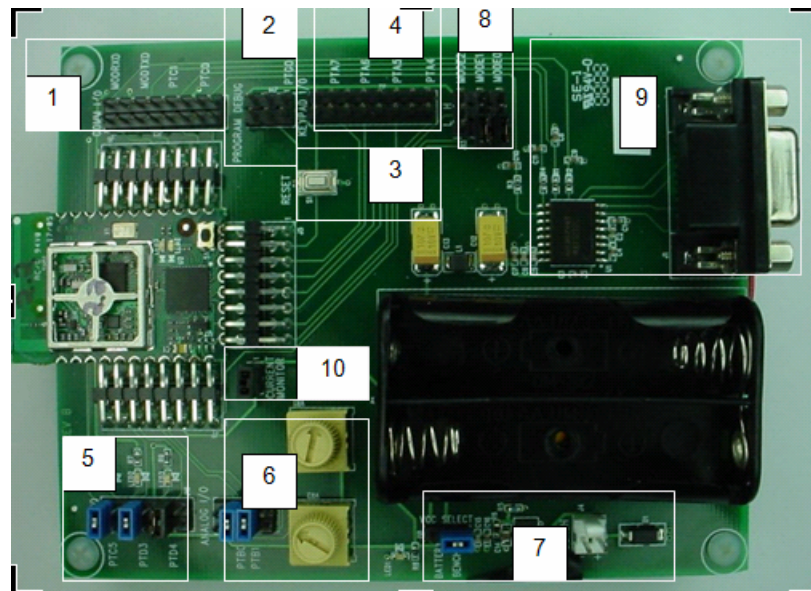

Figure 3-1 Interface Module with Trane RF Module Inserted in Socket
1. Press white reset button on Interface Board (See Figure 3-1 location 3) and black button on Trane RF module simultaneously.
3.1.1 Interface Board Description for Each Location Shown in Figure 3-1
- Header that allows the user to monitor the serial TX (MODTXD) and RX (MODTXD) data lines from section 9 as shown in Figure 3-1 above. The header also provides quick access to Port C pins 0 and 1 on the microprocessor.
- To utilize LED's the jumpers must be connected as shown in Figure 3-1. The jumpers may be removed to externally access Port C pin 5 and Port D pins 3 and 4 for input or output operation.